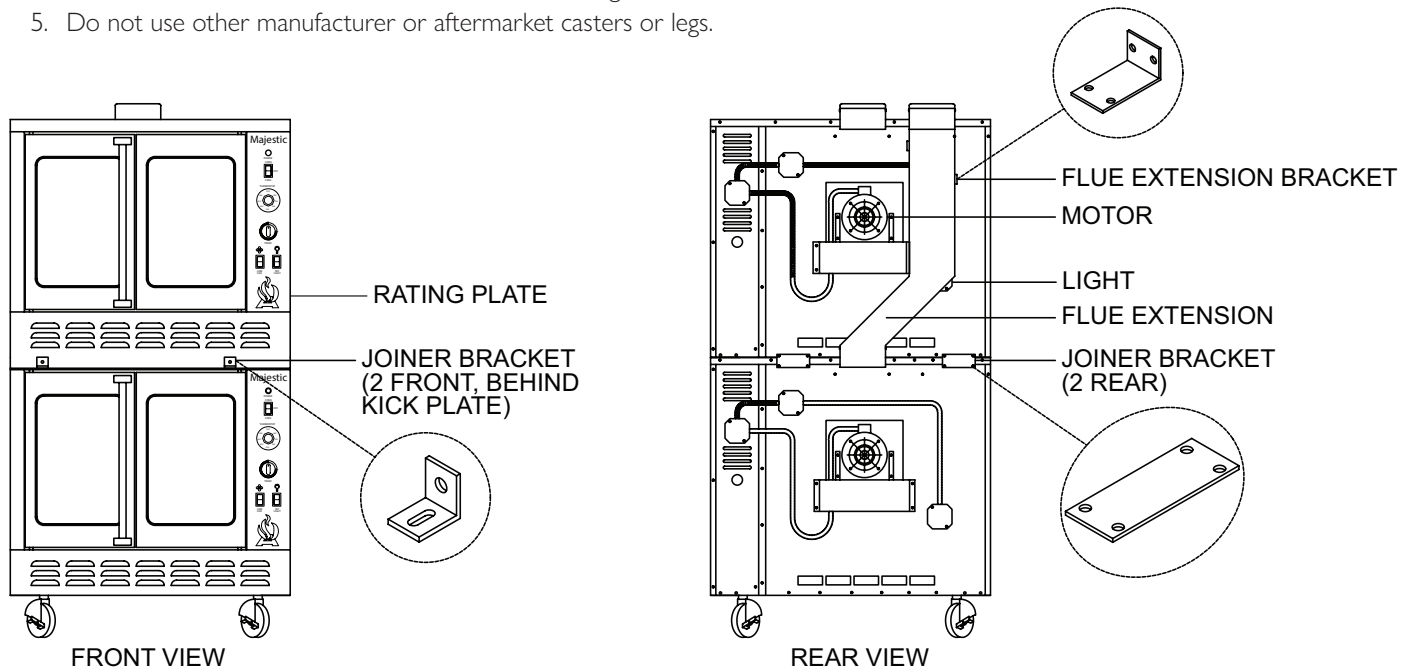

Figure 2
3. Remove top kick plate by lifting and pulling forward. Then bolt by rear and front joiner brackets as shown in Figure 2.